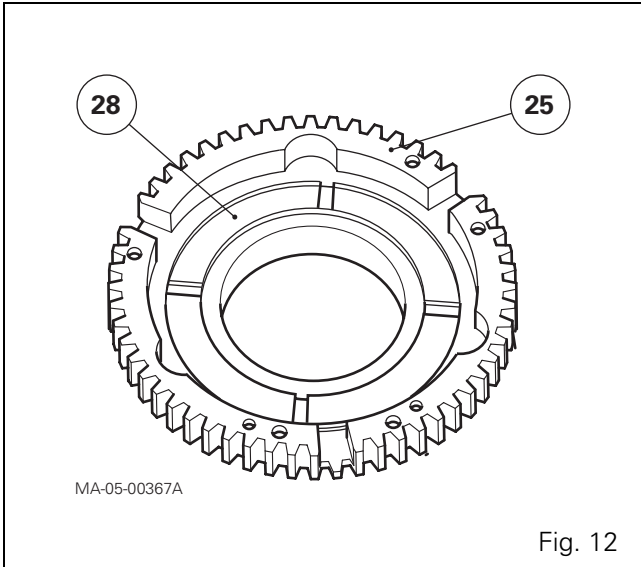

Fig. 12
27. Remove the piston (28) by lightly tapping the cover plate (25) on a wooden block or using a jet of compressed air (Fig. 12).
28. Remove the seals (26) and (29) and discard them.